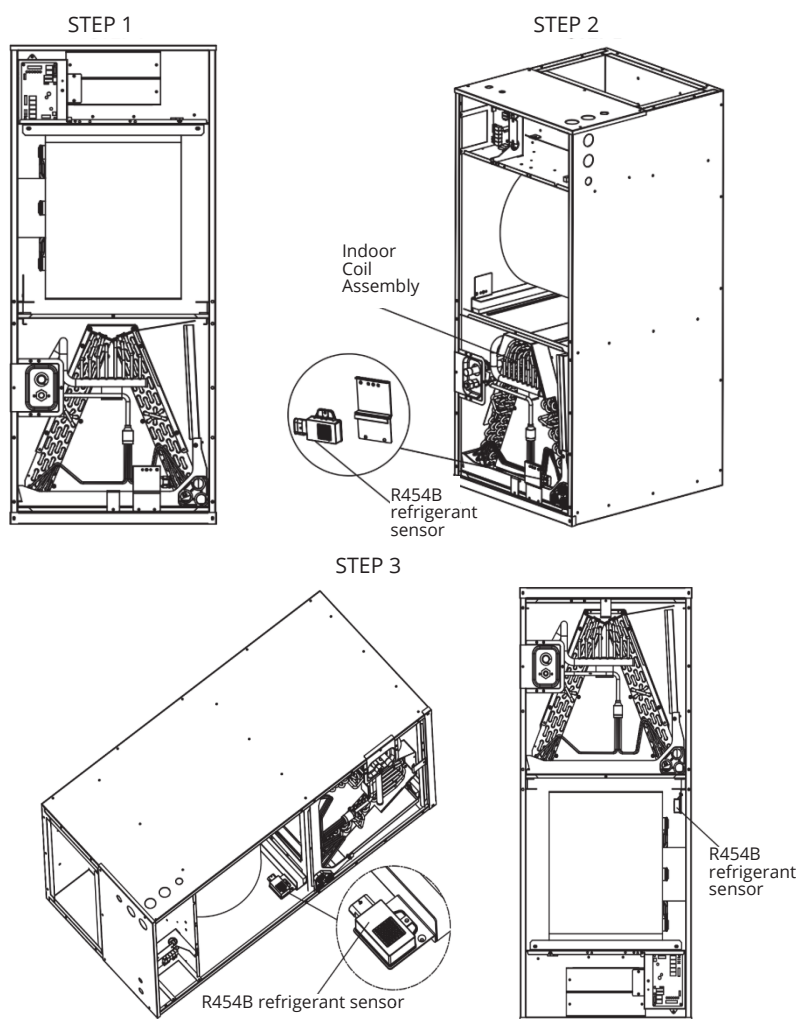

Figure 3-3 Vertical downflow & horizontal left applications conversion
4. Reinstall the refrigerant sensor at the location shown in Figure 3-3.
R454B refrigerant leakage sensor is configured for the indoor unit. To meet different installation scenarios, the refrigerant sensor has two installation positions. The factory set of the refrigerant sensor is applied to the vertical upflow and horizontal right applications. The refrigerant sensor needs to be relocated for vertical downflow and horizontal left. Before installing the indoor unit, check whether the refrigerant sensor is correctly installed according to Figure 3-3.
1. Remove the screws, upper side plate, lower side plate, filter cover plate, and support strip. Disconnect the refrigerant sensor on the control board. See Figure 3-3, step 1.
2. Cut off the zipper buckle of the refrigerant leakage sensor harness, and then unscrew the screws from the support strip and the refrigerant leakage sensor mounting plate to remove the sensor. See Figure 3-3, step 2.
3. Reinstall the indoor coil 180° from its original position and install the refrigerant leakage sensor in the position shown in Figure 3-3, step 3.
4. Replace the wiring harness in the correct position and secure it in place. Insert the refrigerant sensor cable back into the control board. See Figure 3-3, step 3.